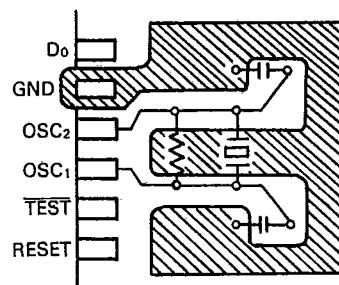

Figure 17. Layout of Crystal and Ceramic Filter
Refer to table 20 to select the type. In addition, see figure 17 for layout of the crystal or ceramic filter.
2. Wiring between OSC1, OSC2, and elements should be as short as possible, and never cross other wiring. Refer to figure 17.